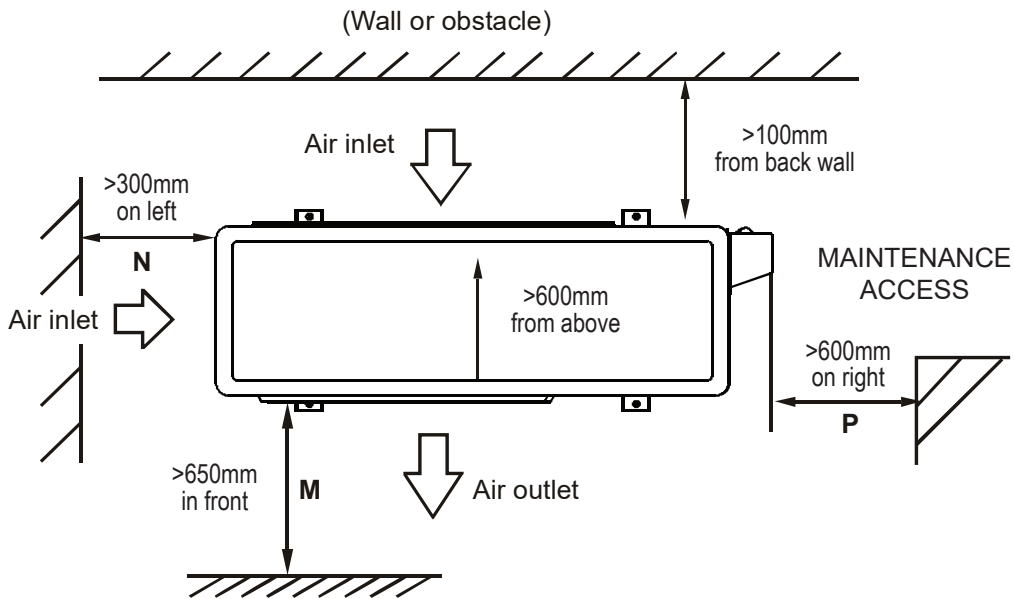

Figure 8.
- The minimum distance between the outdoor unit and walls/obstacles described in the installation chart does not correlate directly to installations in enclosed spaces. In these cases at least two of the three sides should remain open (M, N, P). Refer to "Figure 8." on page 30